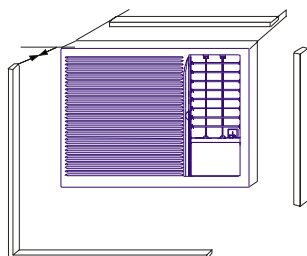
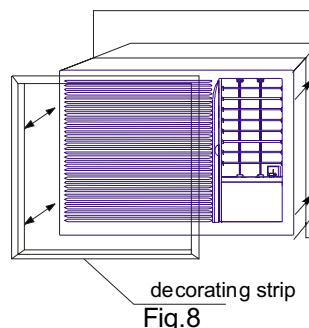

Fig.7
Fig.8
- The seal foam pads are employed to prevent outside hot air from leaking into the room(Fig.7) and the decorating strip is presented for aesthetical appearance as Fig.8.